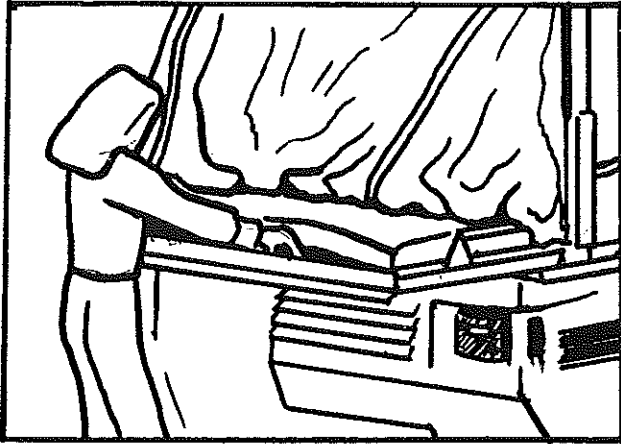

FIGURE 8
15. Standing at the center of the bed, place hands approximately 1 1/2 feet apart on the bed frame and pull until the bed is fully extended (hits the stops). See Figure 8.
As the bed is pulled out, the movement must be done slowly and evenly to prevent inadvertent jamming or wedging of the bed on the sliding rails. See Figure 8.